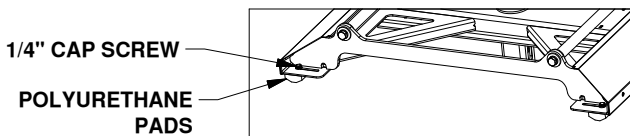

Figure B1: View looking at the slider base from the cab of the truck.
2. **Loosen pads.** Loosen the four 1/4" cap screws securing the polyurethane pads on either side of the slider hitch, see Figure B1.